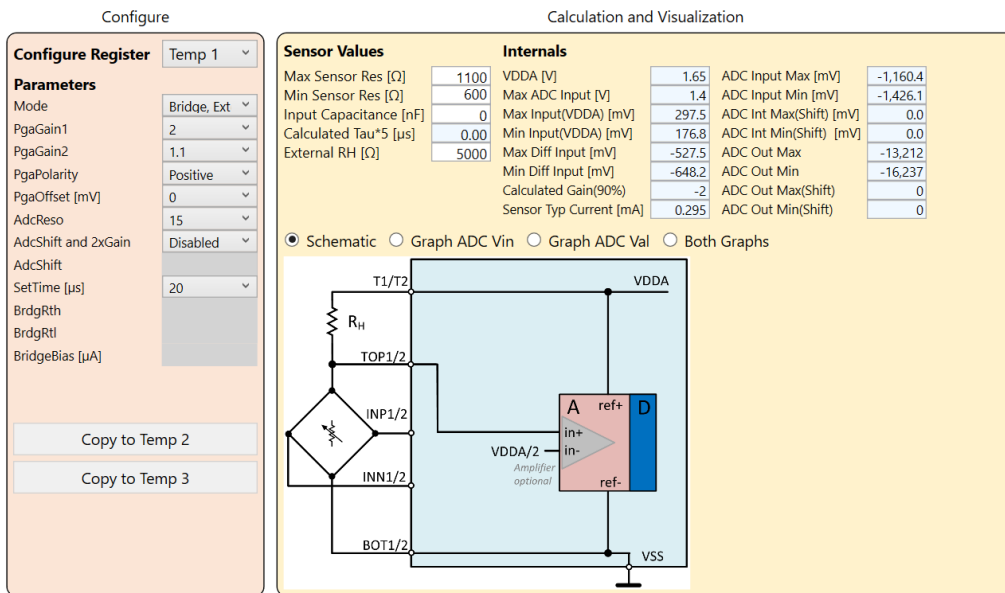

Figure 60. Mode Bridge External Bias
- Bridge, External Bias: The resistive bridge (used for the main measurement), is supplied by an internal voltage source through an external resistor (selectable by the “External RH”) (Figure 60).